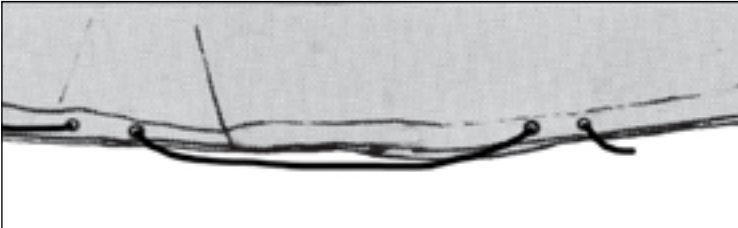

figure 2
5. Lace the vinyl pool cover cable through the grommets around entire pool. (*figure 2*)